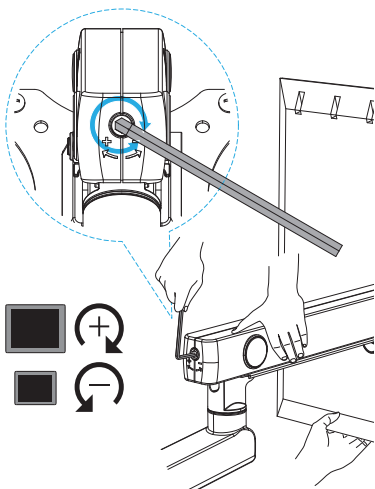

Figure 19
1. Locate the **Tension Adjustment Screw** on the **Spring Arm**. (Figure 19)